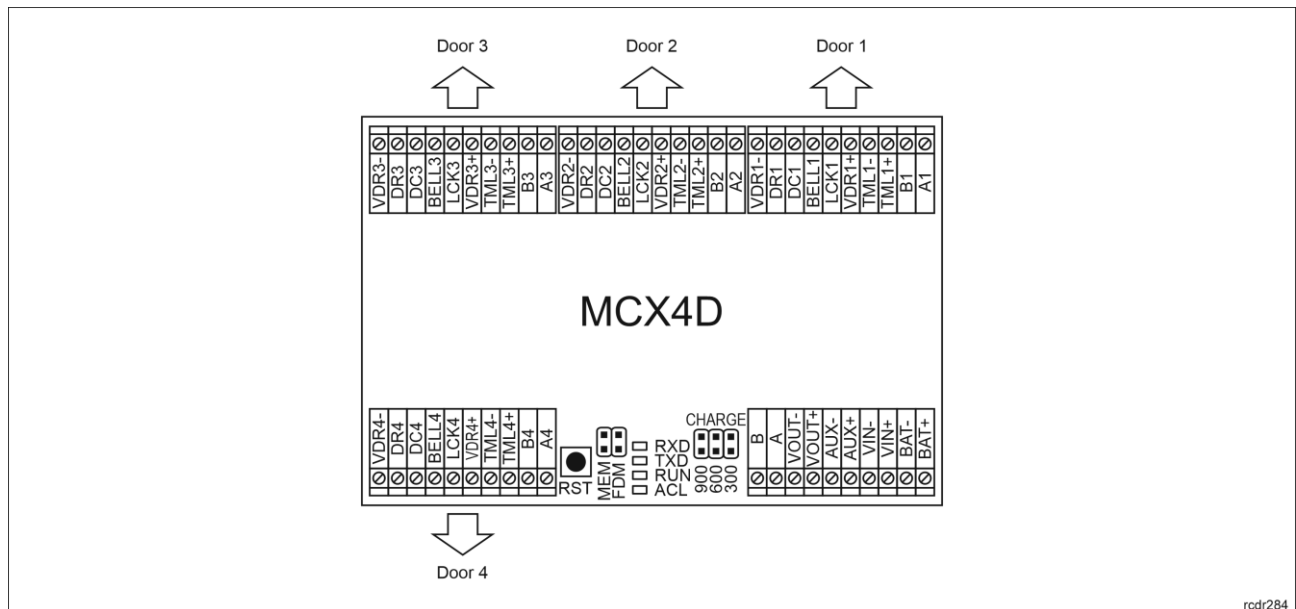

Fig. 2 MCX4D expander
MCX4D enables battery charging with 0.3A, 0.6A or 0.9A current up to the level of voltage supplied to the expander (nominal 13.8VDC). The current is selected with jumpers (fig. 2). When battery voltage drops to approximately 10V then it is disconnected from expander. The battery is reconnected when the 13.8V supply to expander is restored. In order to ensure battery charging up to 80% level within 24h (according to EN 60839 standard) following current settings must be applied:
In RACS 5 v2 system the expander can be installed at site without previous configuration. According to AN006 application note, its address and other settings can be configured from VISO v2 management software and during such configuration the access to its service contacts (fig. 2) is not required.
2. Remove jumper from MEM contacts (fig. 2) if it is placed there.
2. Place jumper on MEM contacts (fig. 2).